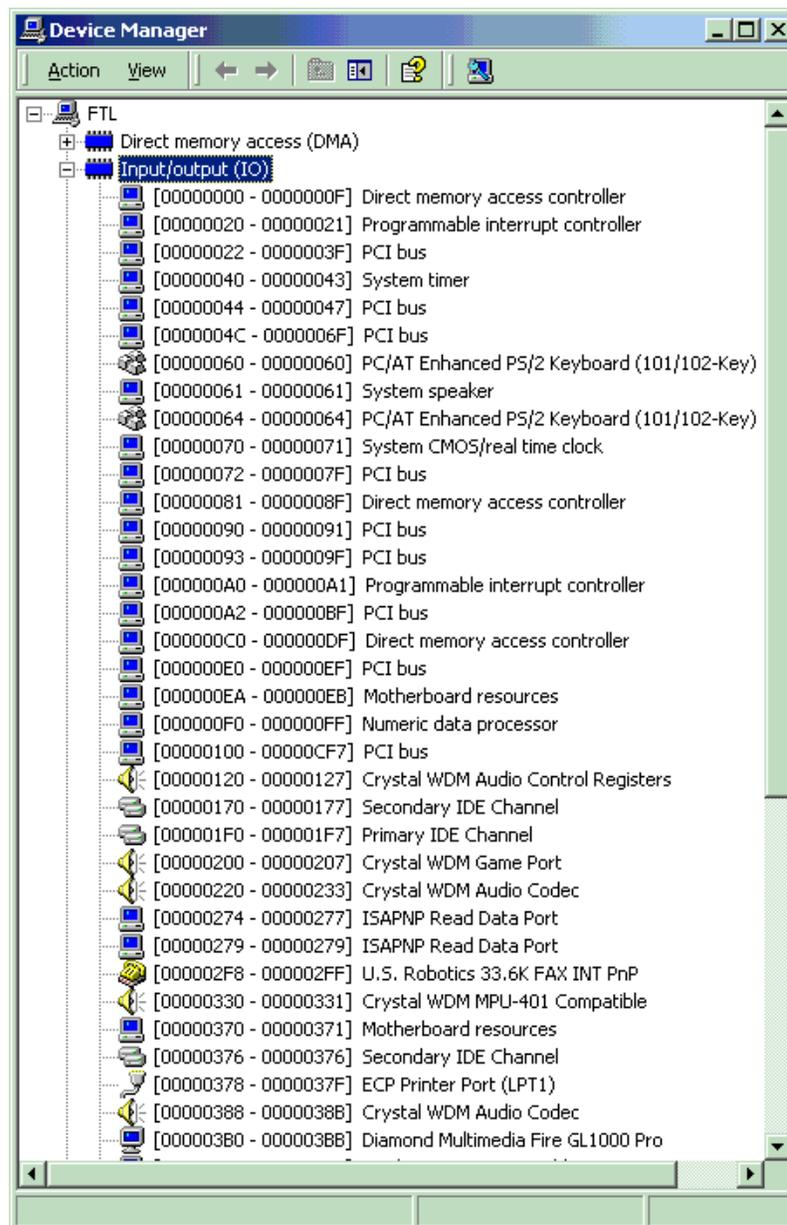

Figure 18. System Resources
3. In the Device Manager window, select the **View** menu. Then click **Resources by Type**. A window opens that shows the system resources (Figure 18).